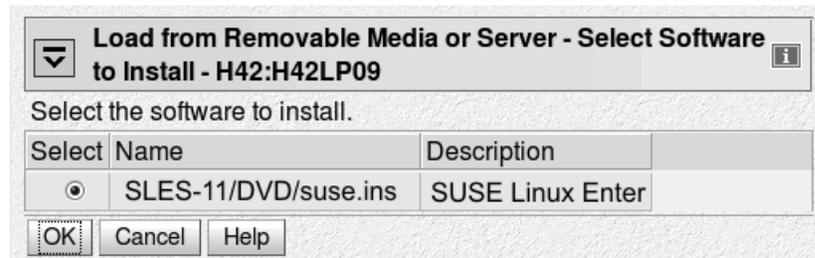

Figure 71. Select Software to Install panel
5. Click **Continue** to display the “Select Software to Install” panel (Figure 71).